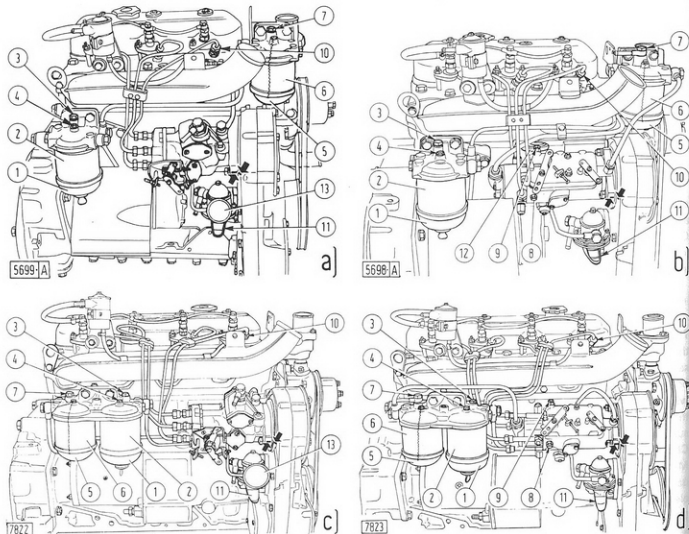

Fig. 39 - Bleeding the Fuel System
Every 50 hours, discharge the condensate from bowl (1, Fig. 39) on the first filter. To do this back off the bowl screw by a few turns.
- Back off bleed screw (3, Fig. 39) on the first filter and actuate priming control (11) until the fuel issuing from the bleed orifice in the screw is free from air bubbles. Retighten screw (11).
- Repeat the above procedure on screw (7) of the second filter.
The Bosch fuel system incorporates an inlet pressure damper (13, Fig. 39) fitted to the lift pump, to counter the effect of pressure surging.